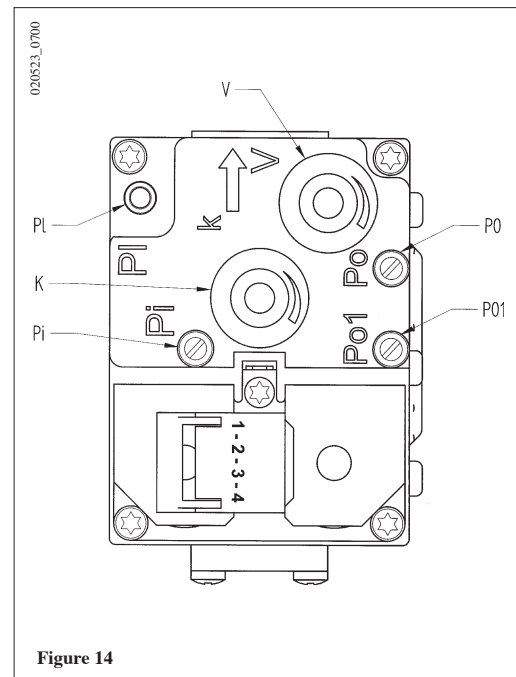

Figure 14
- a) gas valve SIEMENS model VDU 11 (figure 14);
1) calibration of the maximum heat output. Check that the CO₂ measured on the flue, with the boiler operating at the maximum heat output, is the same as that shown in table 1. Otherwise, turn the regulation screw (V) on the gas valve.
- a) **gas valve SIEMENS model VDU 11 (figure 14):** turn the screw clockwise to increase the concentration of CO₂ and anticlockwise to reduce it;